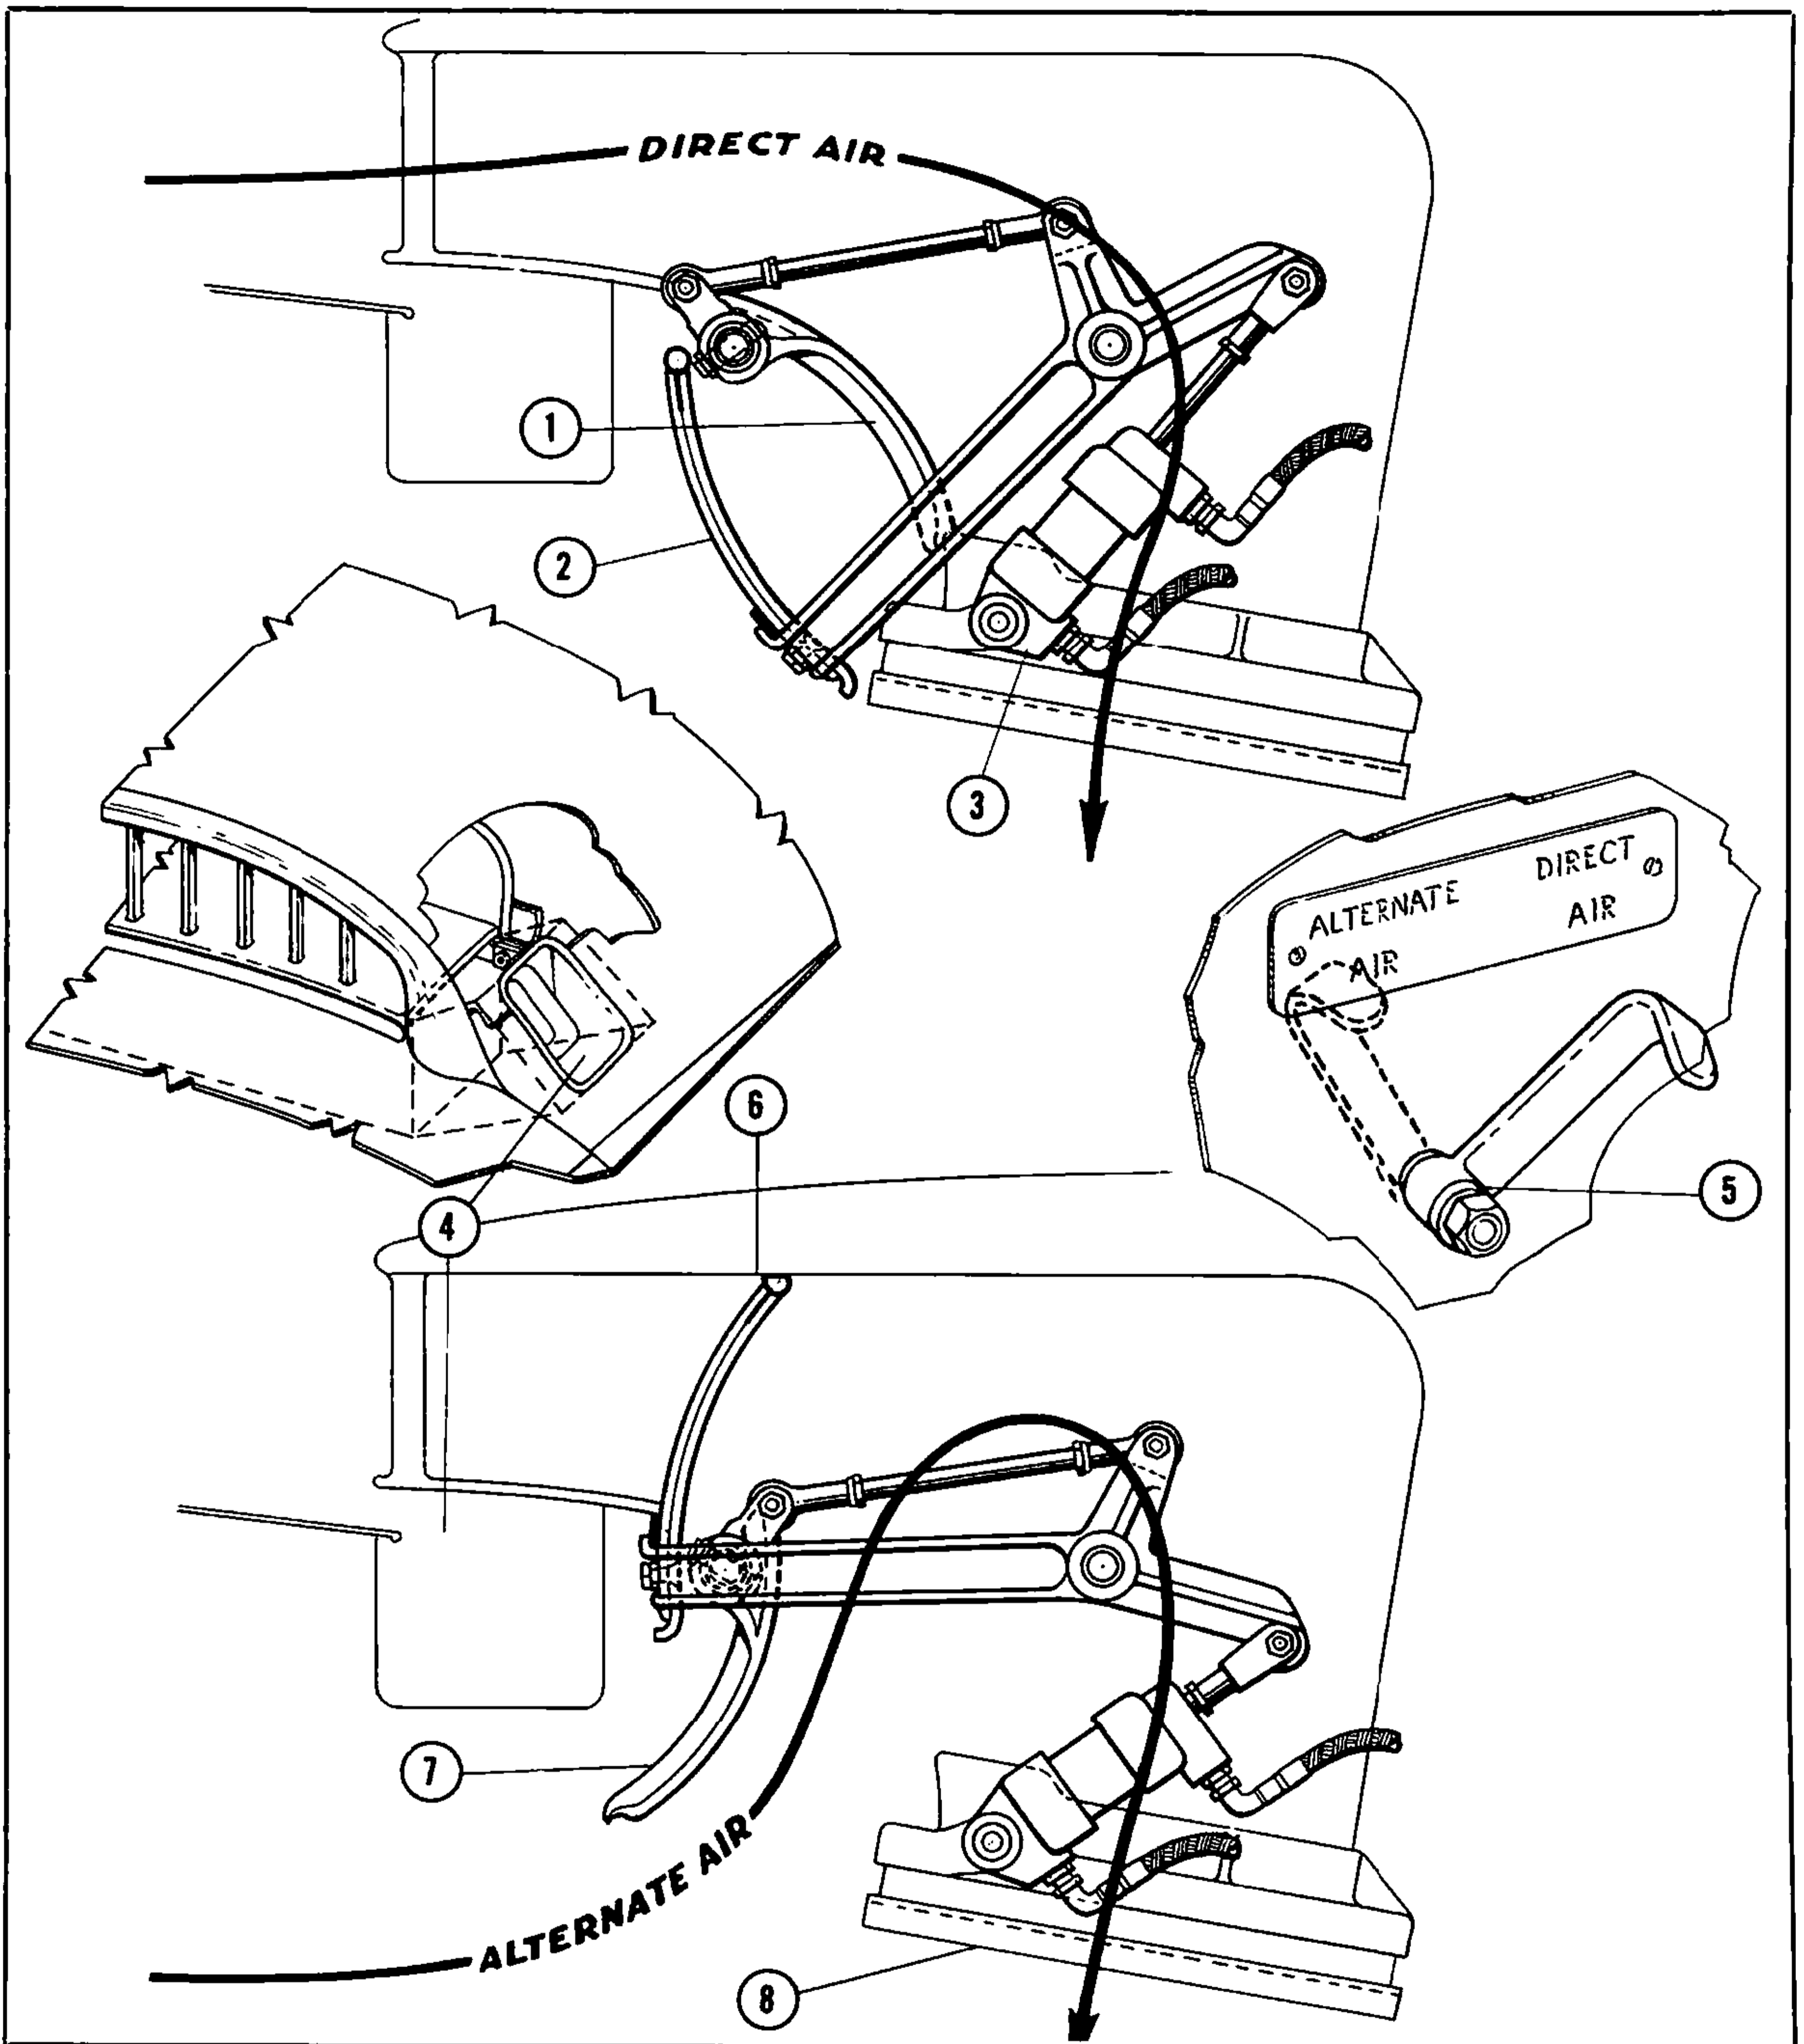

Figure 8 — Alternate Air System
(3) **ALTERNATE AIR CONTROL.** (See figure 8.) — Although the Stromberg injection carburetor is not highly susceptible to icing, the F2G provides an alternate supply of sheltered air for use under severe conditions. When humidity and temperature conditions are such that the pilot suspects icing, or when rain, snow or other precipitation is building a carburetor throat obstruction, he should move the control full aft to **ALTERNATE AIR**. This actuates a pair of hydraulic struts on the carburetor throat, swinging a visor upward into the scoop to block off the normal flow of rammed air. At the same time a gate just above the carburetor opens to allow air to be drawn from the engine accessory compartment. This air is warmed by radiation from the engine and oil coolers and, although it provides very low ram pressures, is a highly satisfactory supply.